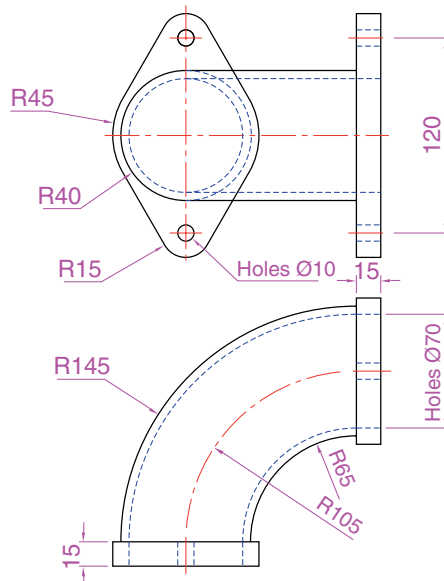

Fig. 17.38 Exercise 3 – details of the shapes and sizes
3. The two-view projection in Fig. 17.38 shows a ducting pipe. Construct a 3D model drawing of the pipe. Place in a **Southeast Isometric** view, add lighting to the scene and a material to the model and render.